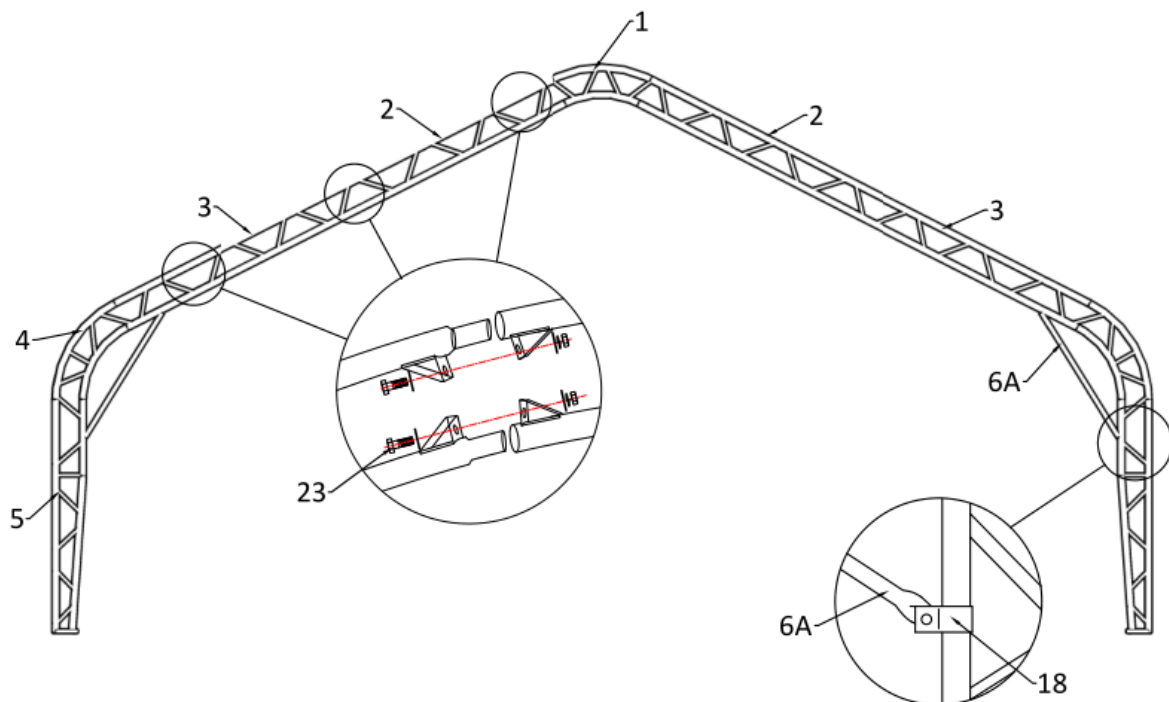
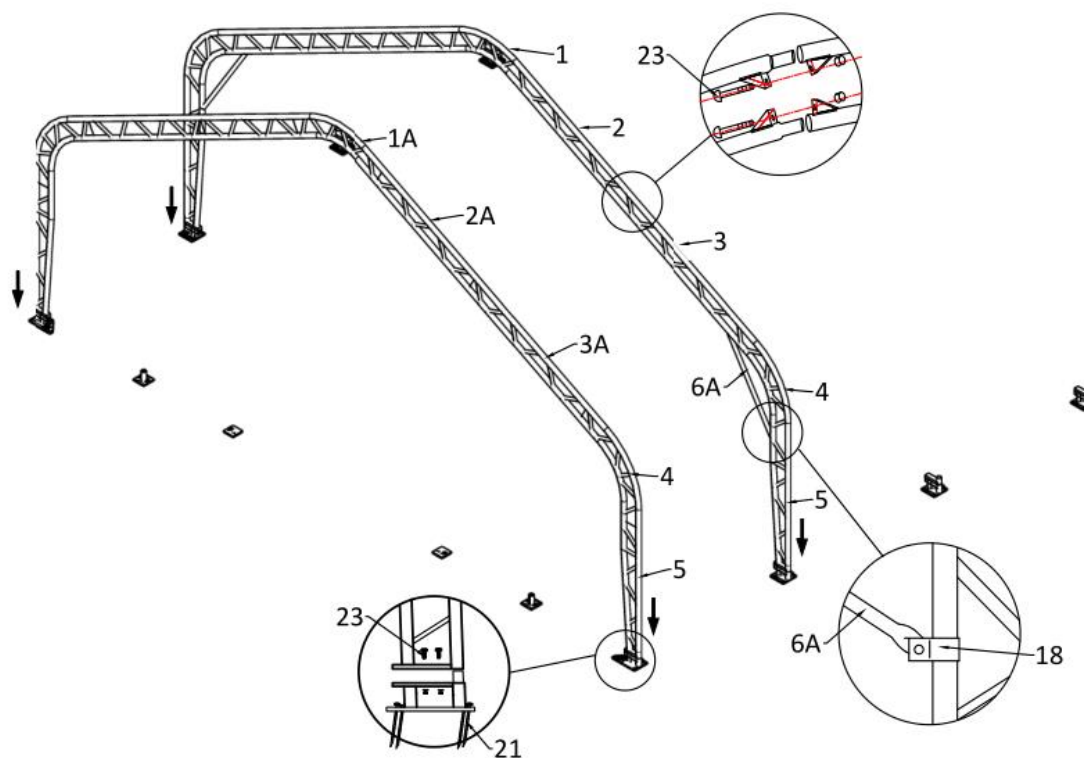

Figure 4
Figure 5
2. Figure 4 shows to connect the top roof tube (No.1), roof curing tube (No.2), roof curving tube at shoulder (No.3), sidewall tube (No.4) and standing leg (No.5) with bolt M12x40mm (No.23), which make up the middle arch, then put the arch into tube of the base flange by hoist, and assemble every group arch by turns as Figure 5 shows.